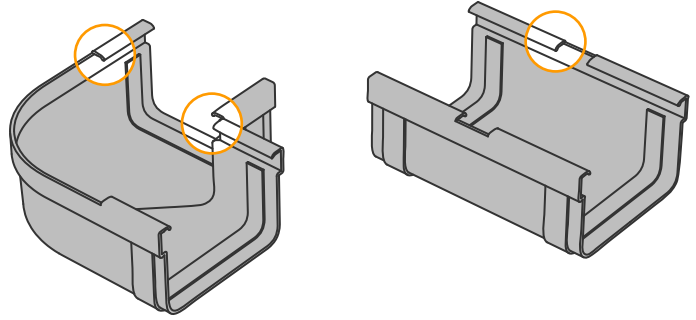

Fig. 5
4.1. The tabs on Streamline Double-Flo® fittings indicate the positioning for gutter ends. See encircled areas in Fig. 5. Note that the outlet fitting is best installed over a continuous section of gutter length as described in steps 12 to 14.